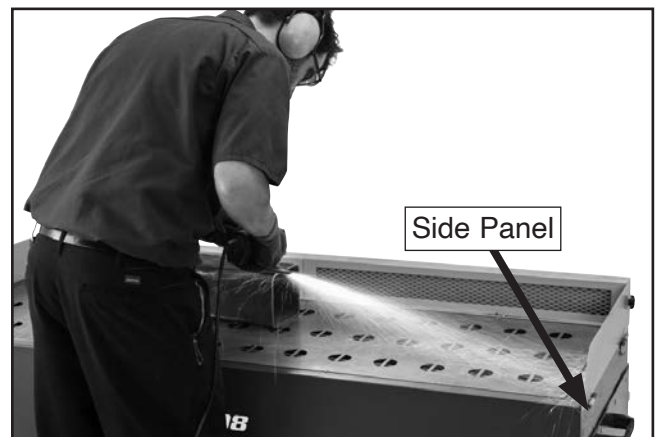

Figure 11. Example of typical grinding operation.
3. Turn downdraft table **ON** and perform operation (see **Figure 11**).